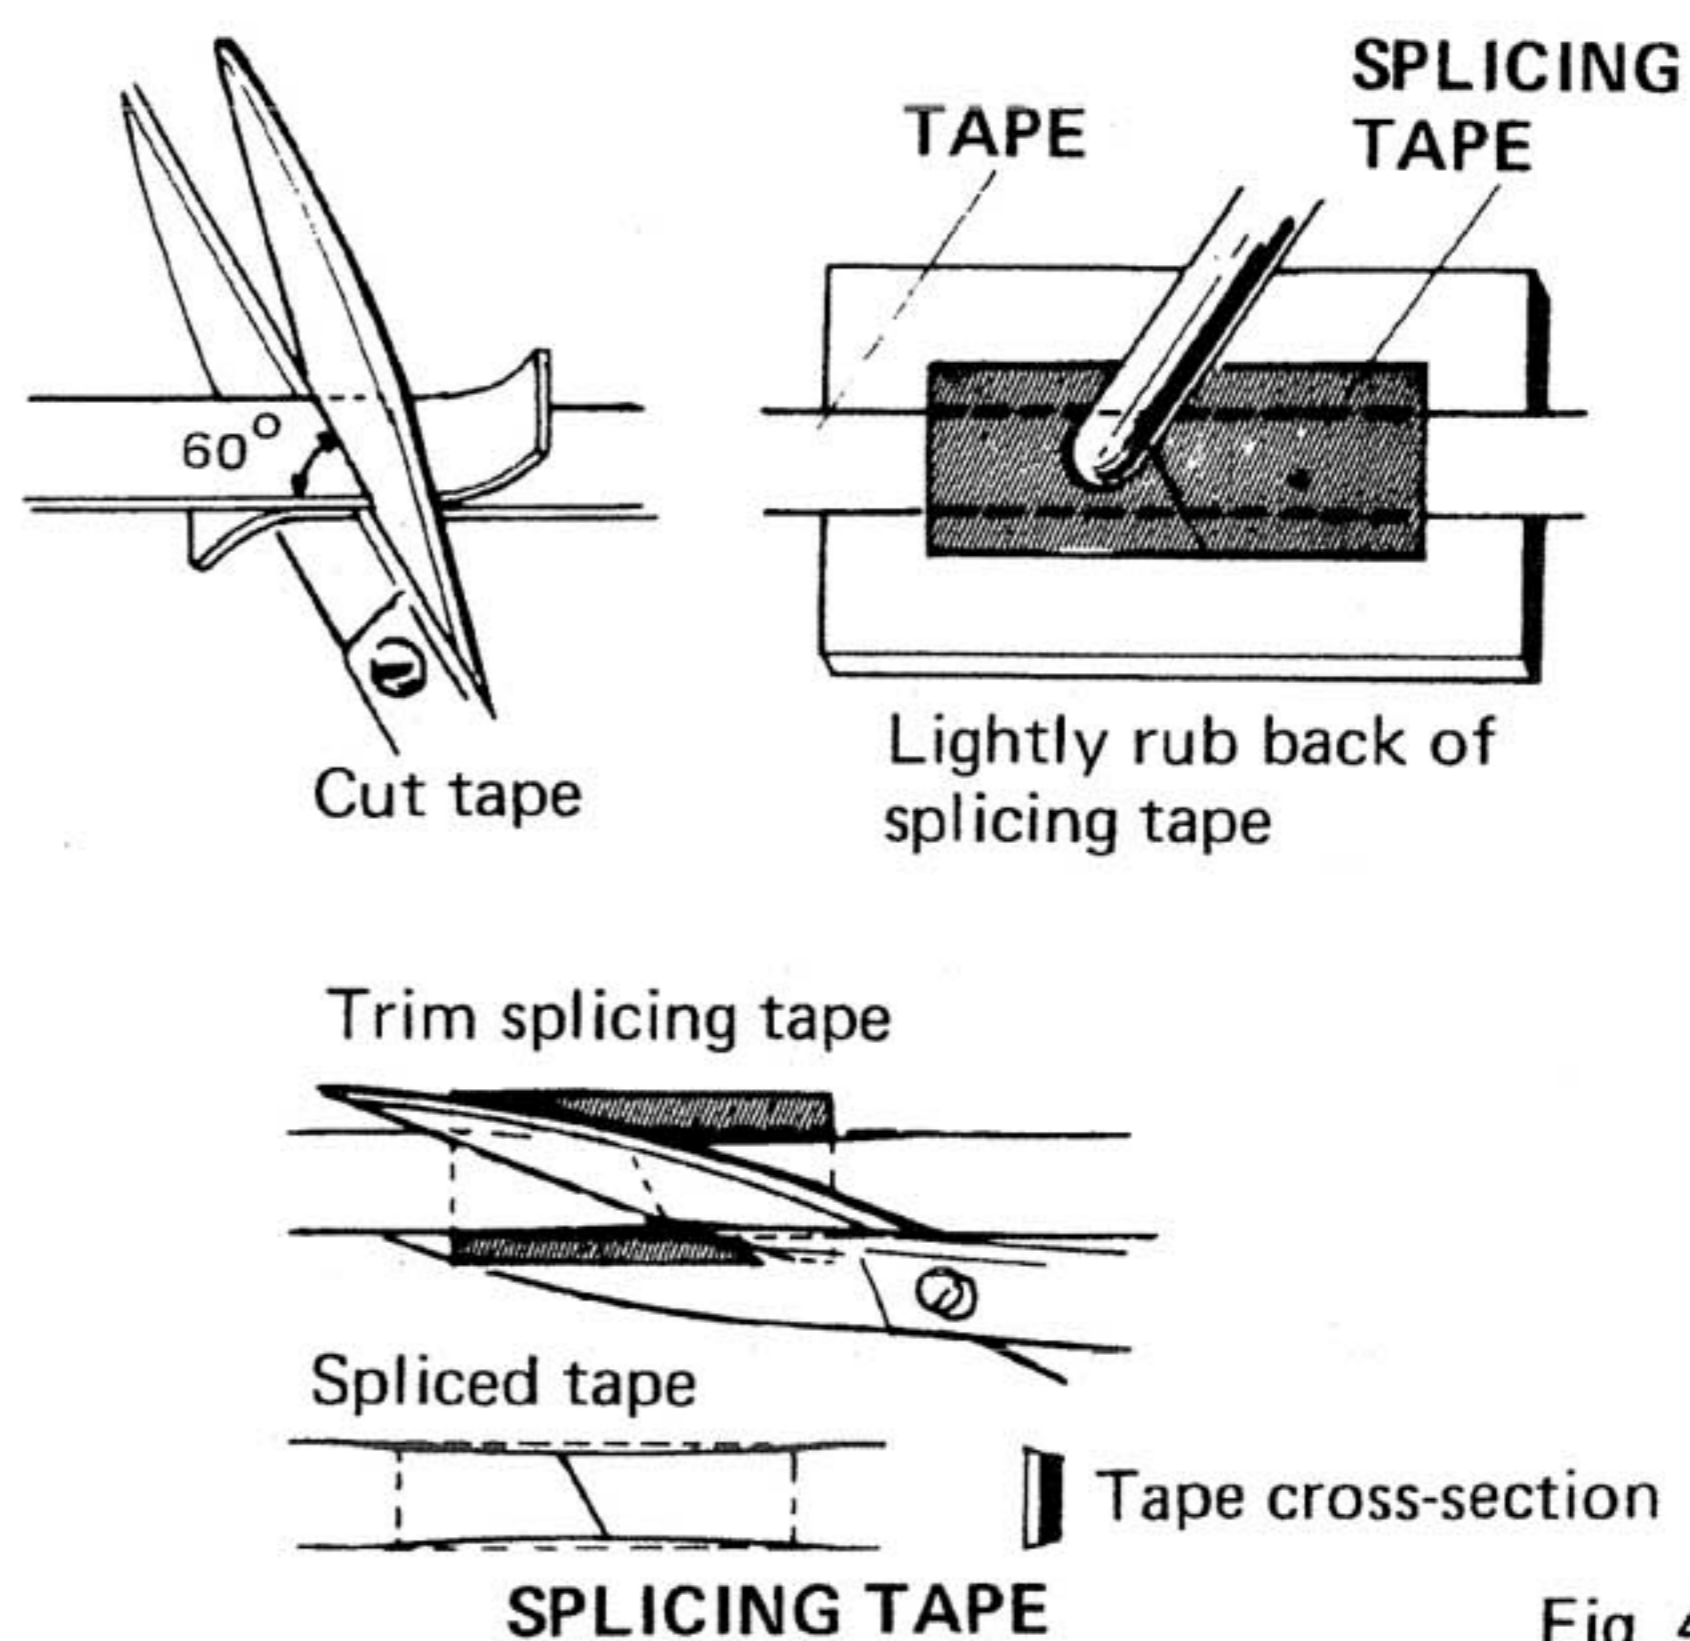

Fig. 46
If tape breaks, it can be spliced as described below (Fig. 46).
6. Trim exposed edges of the splicing tape, cutting slightly into the recording tape (Fig. 46). If recorded tape has been broken, and the break is "clean" (without stretching, which may occur with polyester tapes), an attempt can be made to splice the broken ends directly together, foregoing the cutting step in Item 1. This would eliminate an audible interruption in the sound during playback.